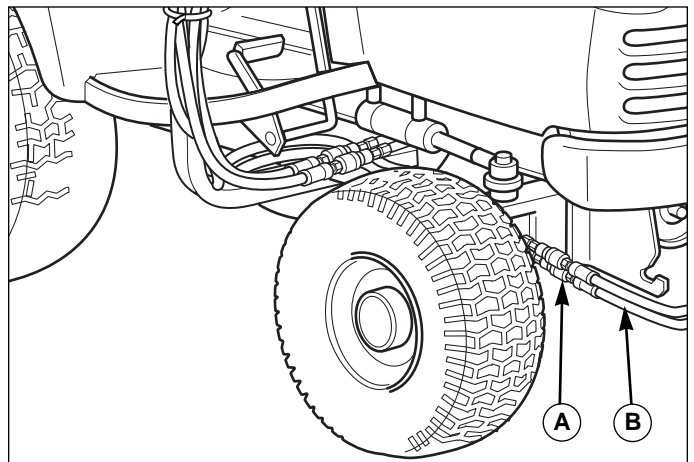

Figure 30. Connect Hydraulic Hoses
7. Connect the dozer hydraulic hoses (B, Figure 30) to the 1/2" x 75" long hoses (A) coming from the top of the control valve.
8. Secure the control valve hoses (A, Figure 30) to the control arm and ladder hitch using plastic tie straps.
9. Secure the dozer blade hoses (B, Figure 30) to the dozer blade hitch assemble using plastic tie straps.